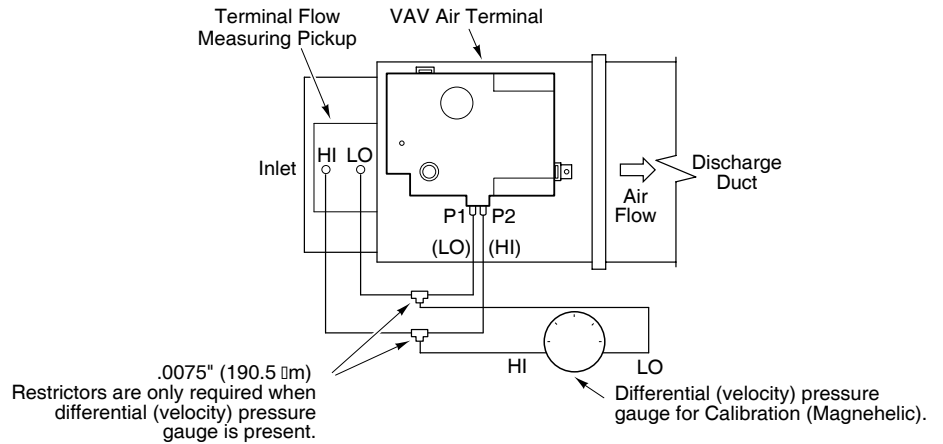

Figure-8 Typical VAV Terminal Piping Connections.
3. Connect tube from P1 fitting on controller to low pressure tap on VAV terminal. See Figure-8.
4. Connect tube from P2 fitting on controller to high pressure tap on VAV terminal. See Figure-8.
Use a differential (velocity) pressure gauge to calibrate and verify central system is delivering accurate pressure. Figure-8 shows connections for attaching gauge. When gauge is removed, restrictors must be plugged or removed from tubing.